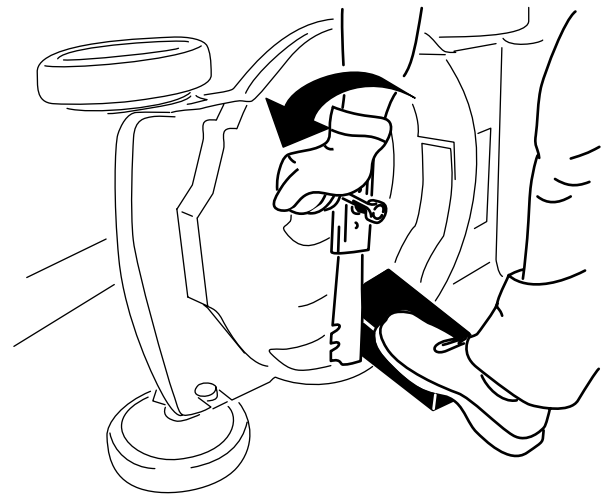

Figure 18
2. Use a block of wood to hold the blade steady (Figure 18).
3. Remove the blade, saving all mounting hardware (Figure 18).